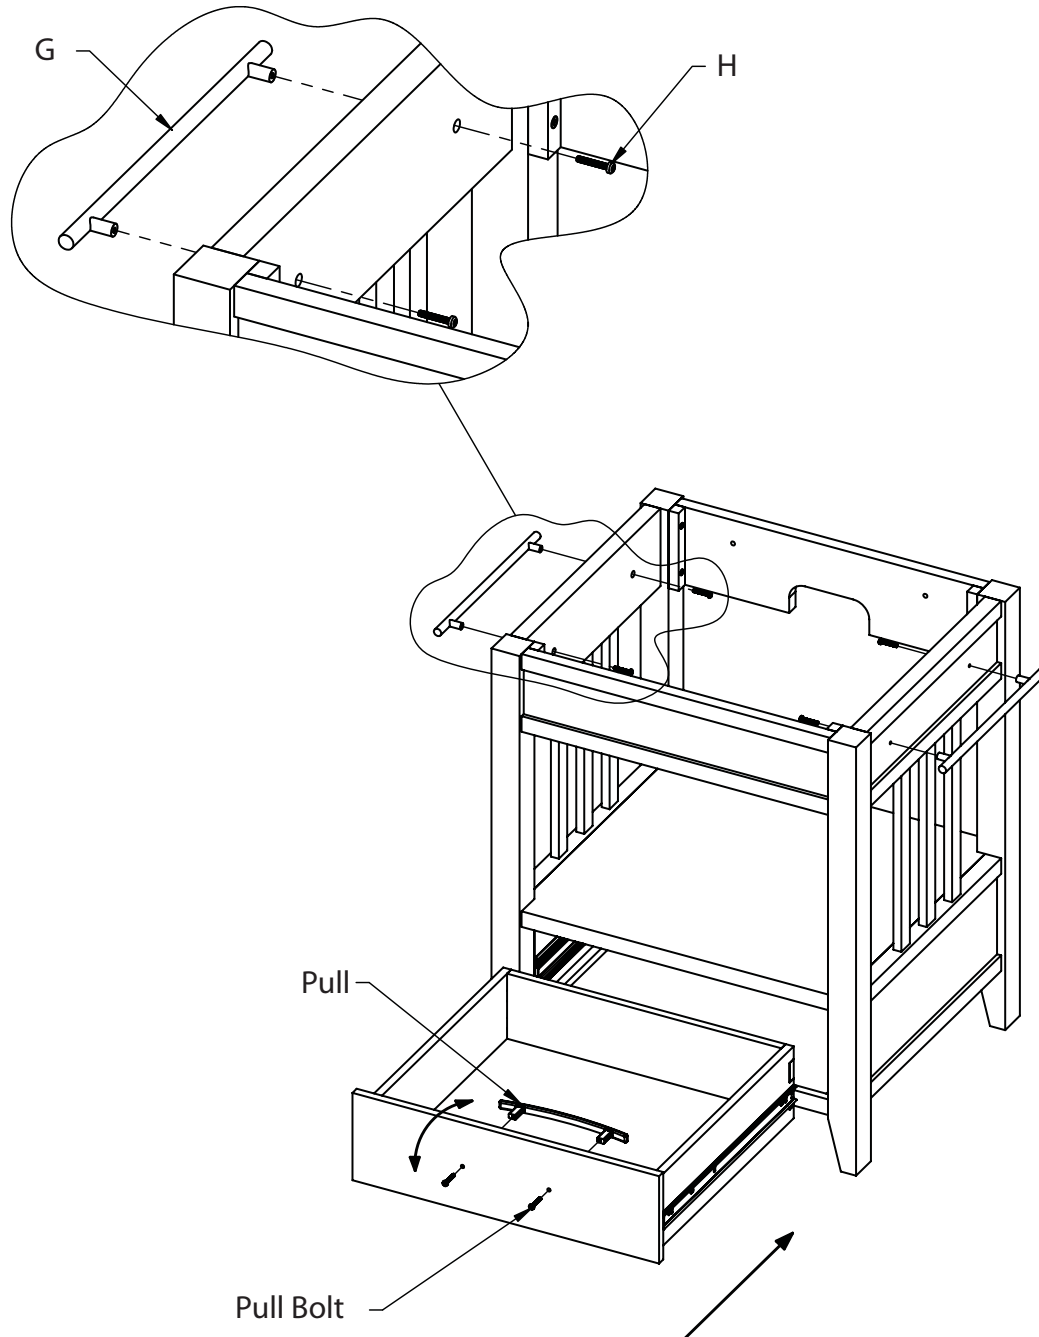

Figure 3
- o Attach Towel Bars (G) to Leg Assemblies (E, F) using Small Machine Screws (H).
- o Place drawer back into Drawer Unit (C).
- o Refer to Figure 3.